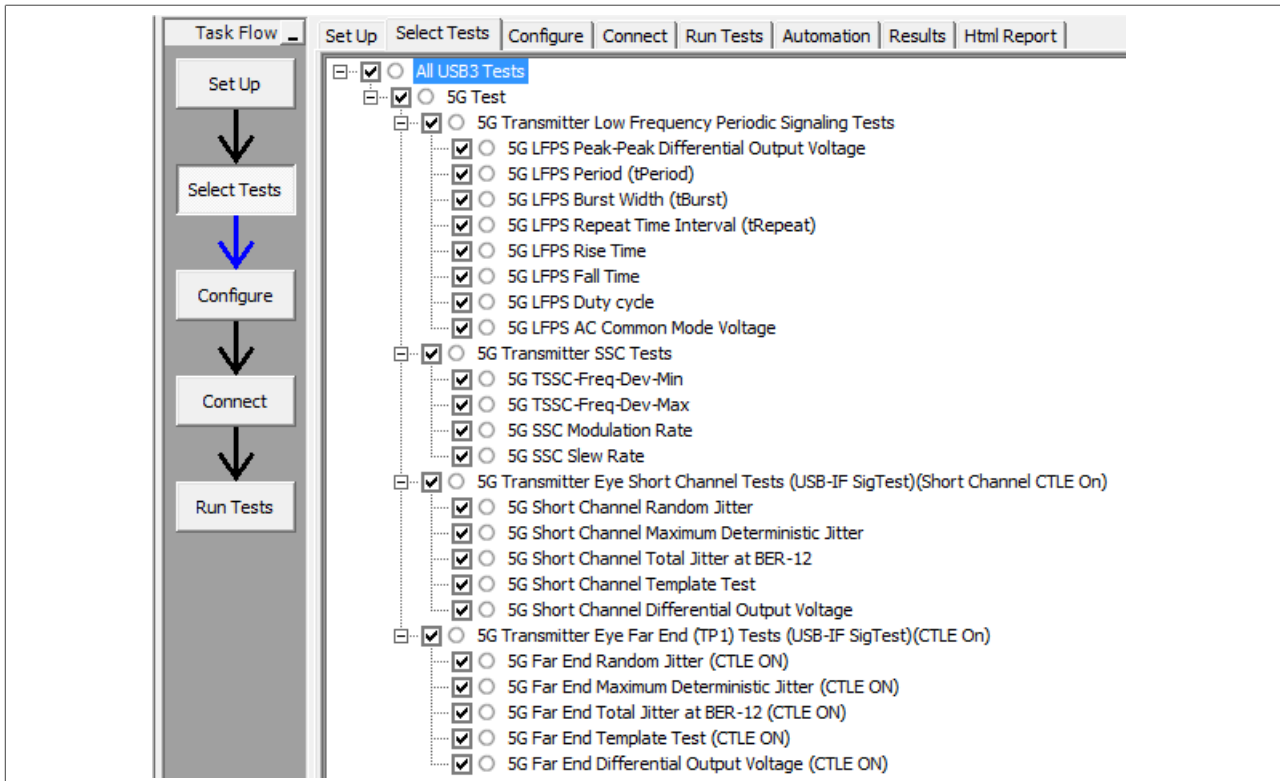

Figure 104. Automated Test Software setting for Testing Items
2. Select the test items in the USB Automated Test Software in Figure 104